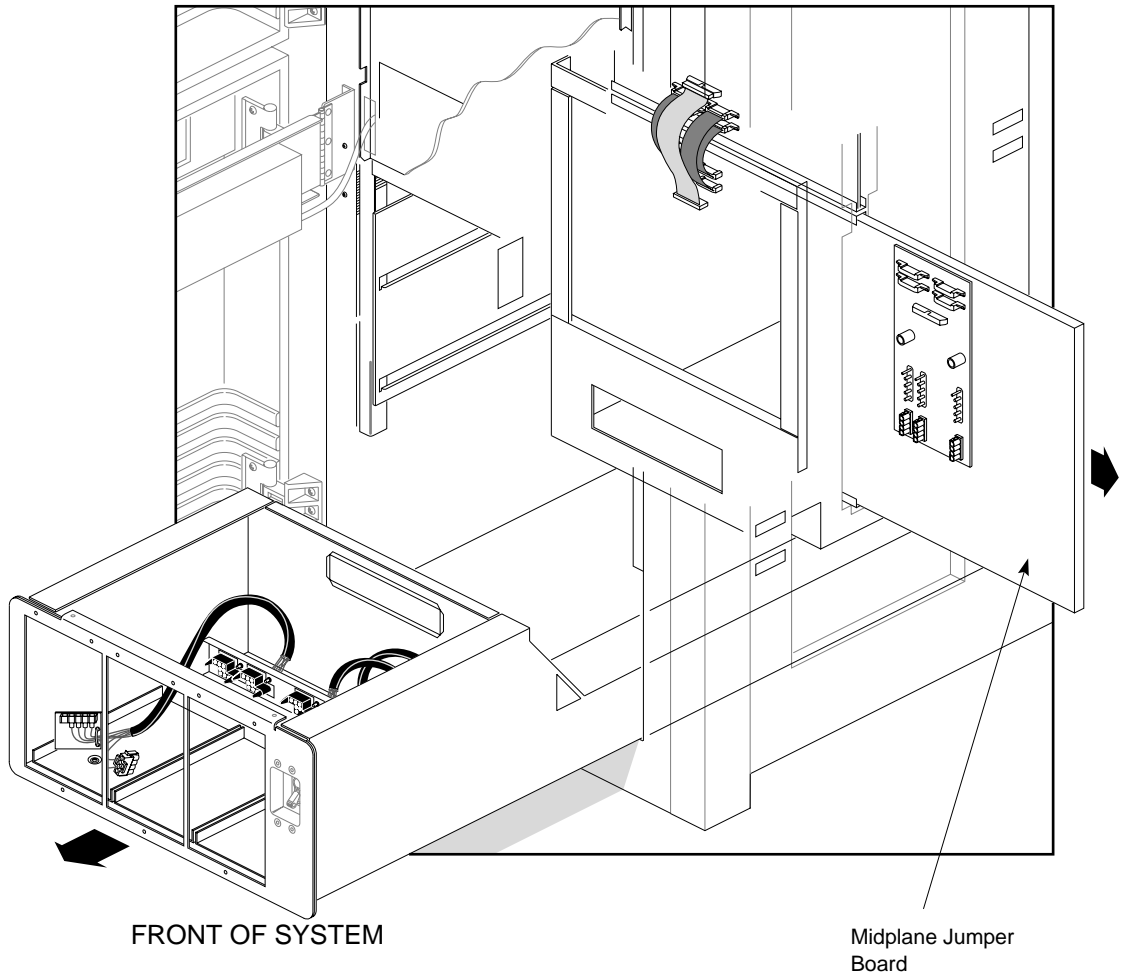

Figure 3-49 Removing the Midplane Jumper Board
16. Install the upper and lower Cardcage 3 card guides. Each card guide has four locating tabs (one in each corner). Make sure the tabs are perpendicular to the flange. The tabs fit into slots in the sides of the system chassis (see Figure 3-49).